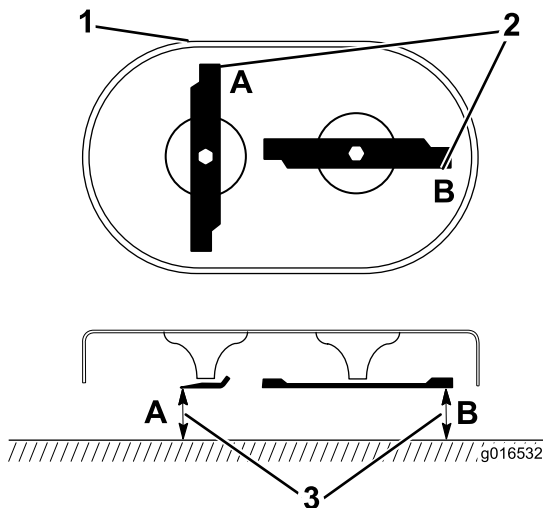

Figure 43
1. Rotate the blades until they are positioned as shown in Figure 43.
2. Measure from a level surface to the cutting edges at locations A and B, (Figure 43), and record both dimensions.